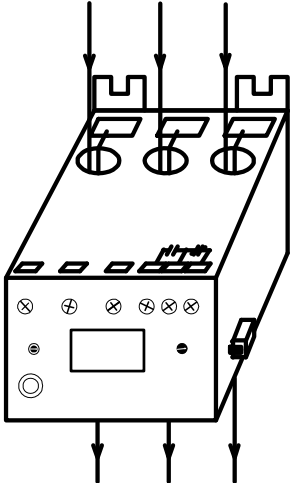

Figure 2: Looping Example for 2.5-10.5A, MULT = 2
- b) For amperages less than 5 amps (up to 10.5 amps, if desired), loop the motor conductors according to Table 1. Figure 2 shows an example of the looping required for current ranging from 2.5-10.5 amps (MULT=2).